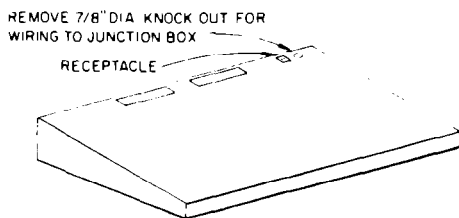

Figure 11
1. Remove the terminal access cover. (See Figures 11 and 12).